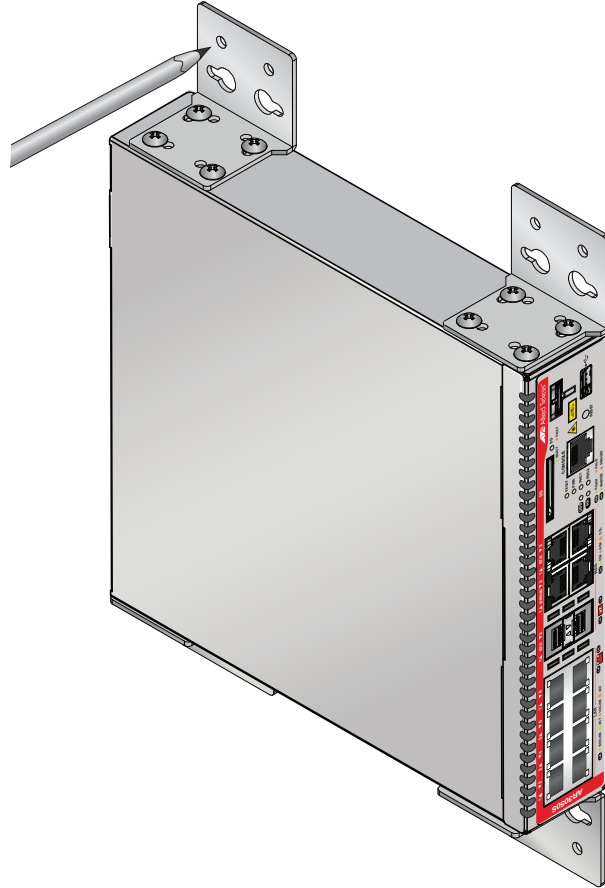

Figure 11. Making the anchor hole locations
4. Have another person hold the router at the wall location where the router is to be installed, while you use a pencil or pen to mark the wall with the locations of the holes in the brackets. The router should be oriented such that its front faceplate is facing to the left or right, and is vertically level. See Figure 11.